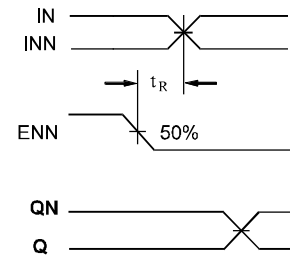

Figure 3. Release Time
7. The release time is the minimum time that ENN must be deasserted prior to the next IN/INN transition to ensure an output response that meets the specified IN to Q propagation delay and output transition times (see Figure 3).